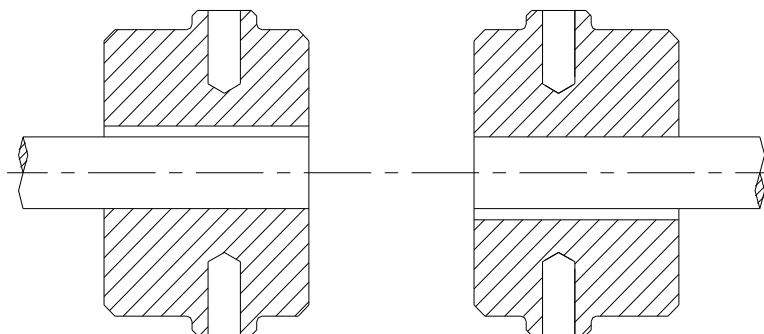

Fig.4
- Bring both the hubs closer to maintain gap 'G'(Table 2) as shown in Fig. 4